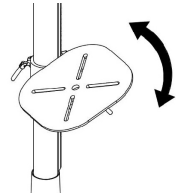

Fig. 12
- a. A scale is provided on the arm measured in degrees to assist in setting the required angle. For all normal operations the table should be set at 0° (Fig. 12).